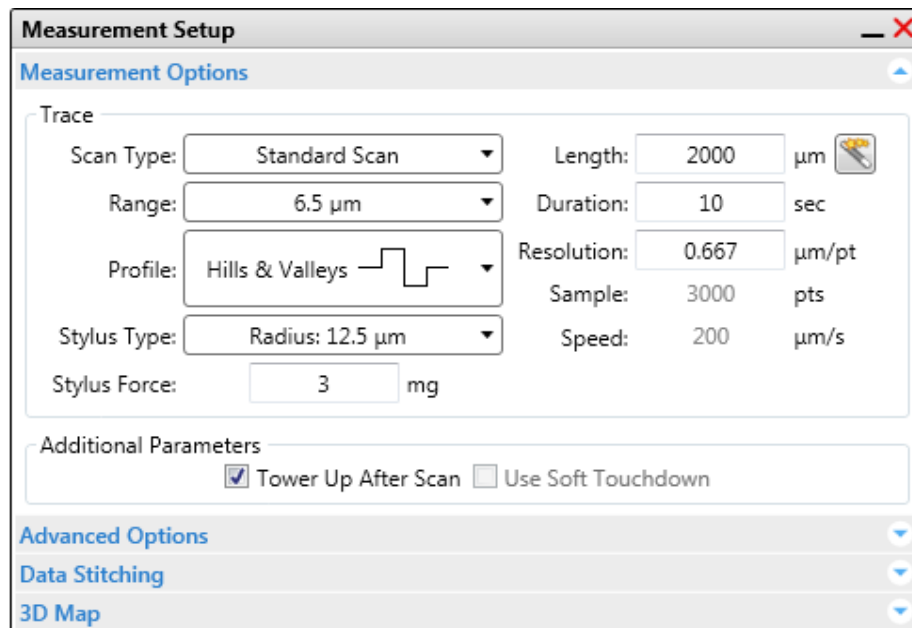

Figure 4-4: Measurement Options Window
- 9 On the **Measurement Options** tab of the **Measurement Setup** window, select **Standard Scan** (see Figure 4-4).